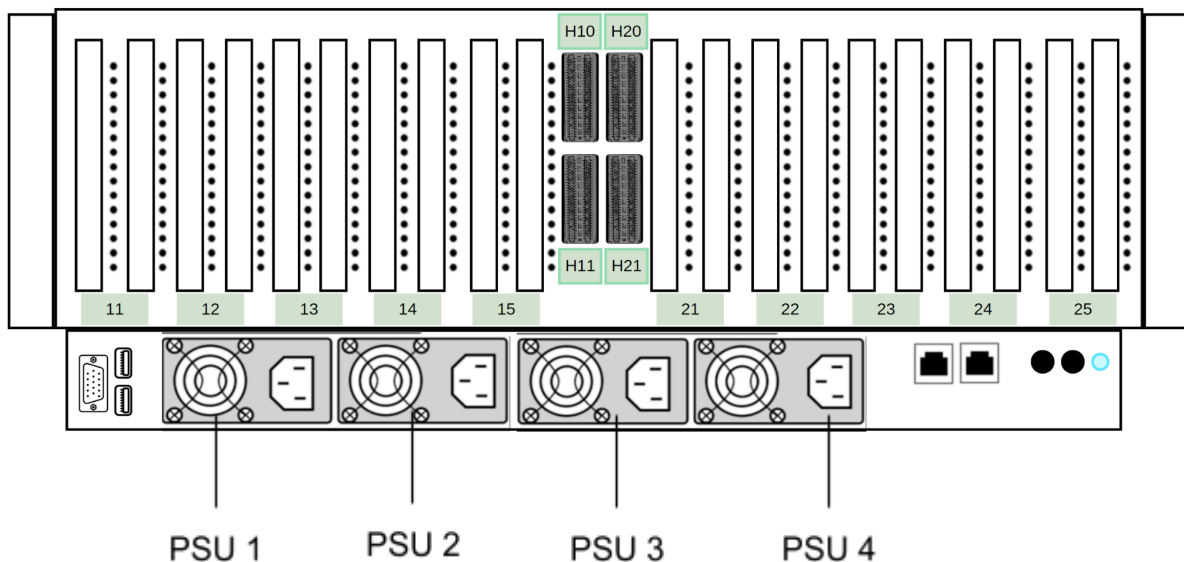

Figure 117. Picture of the PSUs from the rear view
- Refer to the PSU numbering system in the back view diagram for precise identification.(Refer to Figure 117: Picture of the PSUs from the rear View)